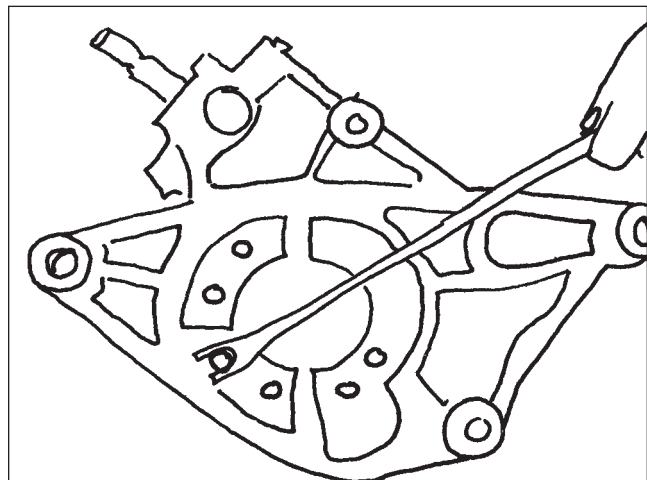

Figure 146
24. Attach the mounting bracket to the gear housing using the attaching bolts, and torque to manufacturer’s specifications (Figure 146) (if equipped).